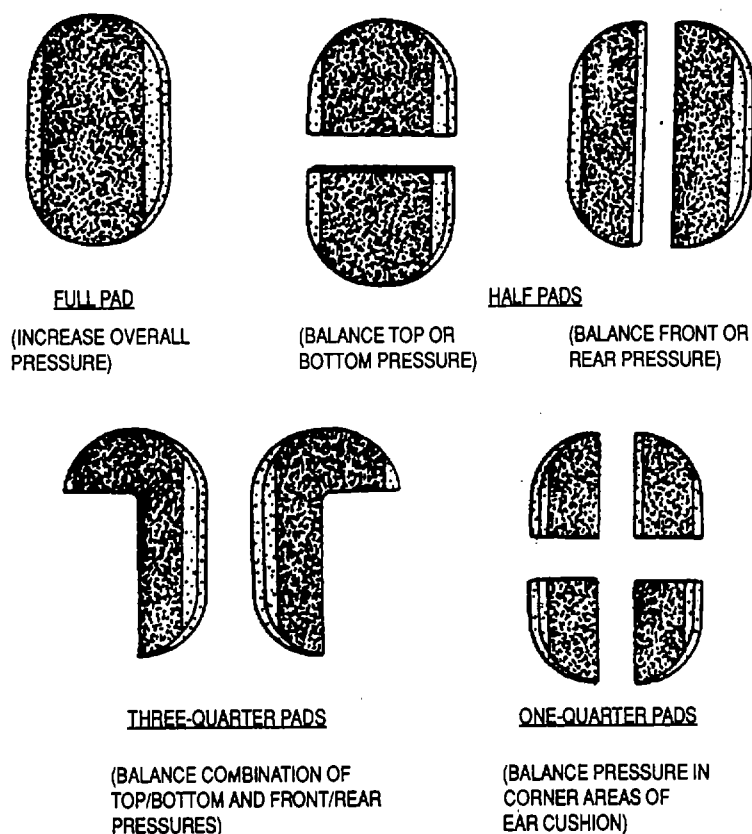

Figure 2-12. Spacer Pad Applications
- Spacer pads can be cut to any shape shown in figure 2-12 to balance earcup compression as needed.